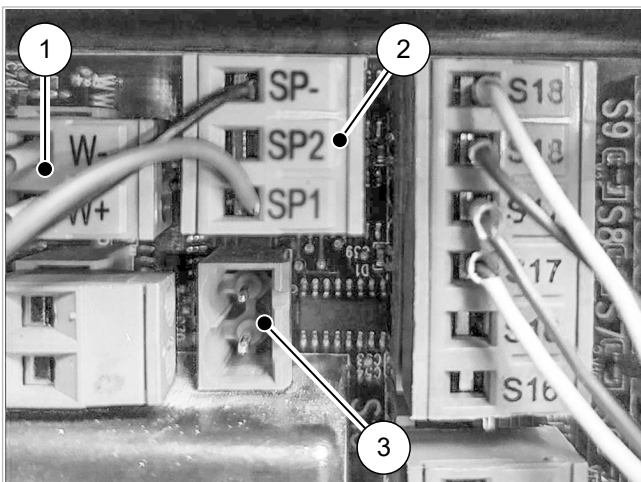

Fig. 4: Mains connection board SC-3
3. Connect the signal cable to the output WW (O5) (see → Fig. 4) as follows:
1. The gas burner is modulated via output O1 (see → Fig. 4). Reconnect the modulation connections to a two-pin socket strip and plug into output O1.